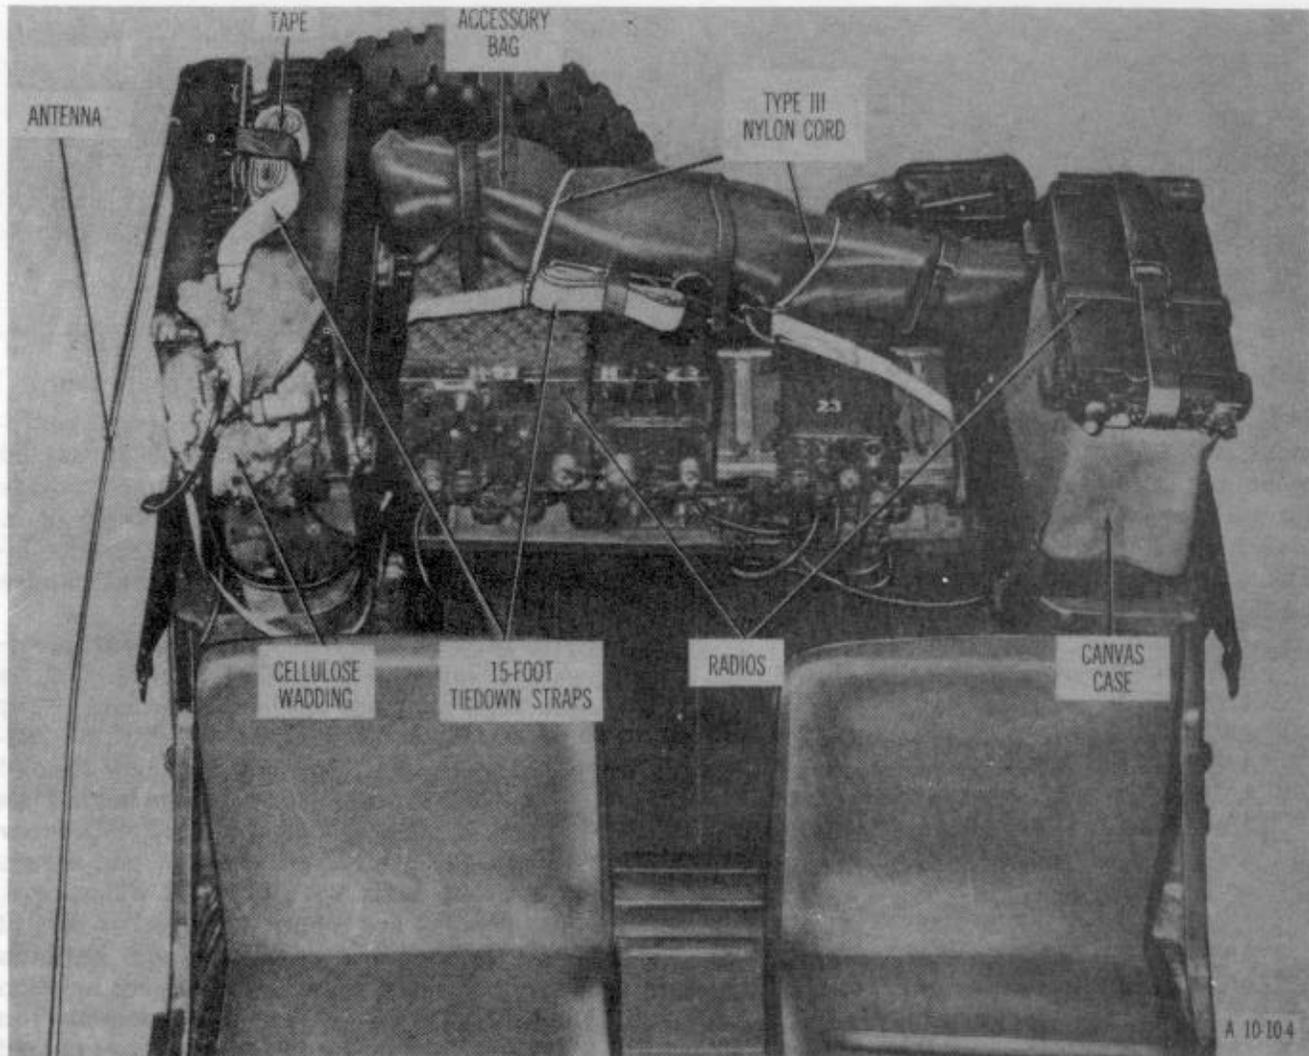

Figure 3-1. Radio sets stowed.
a. *General Procedures.* The general procedures are shown in figure 3-1. Secure, pad, tie and/or tape all loose radio components. Wrap any small, loose components in cellulose wadding and place in storage compartment located under the right front seat or the one behind the front seats. If antennas are mounted on the rear of the vehicle, bend them forward and secure them to front seats with type III nylon cord. When antennas are mounted on either side of the vehicle, remove antennas and antenna mounts and secure them to convenient location in the vehicle. If the antenna base is mounted on the rear of the M151 truck and is extended above the height of the spare tire, the antenna base must be removed, padded, and secured in a convenient place in the truck. Secure radios to their mounts using 15-foot tiedown assemblies as required. Some light sets, such as the AN/PRC-9 and AN/PRC-10, have their own retaining straps and may be stowed in canvas cases. Make certain that straps are secured properly. If an accessory bag is to accompany the load, secure it in a convenient place with type III nylon cord. If gasoline cans are to be stowed in the rear of the truck, place a piece of honeycomb in front of any radios mounted in the bed of the truck to prevent damage to the instrument panel.
(1) AN/MRC-95. Procedures for stowing the AN/MRC-95 radio set are as follows: remove teletypewriter set and position on rear seat; make certain that seat holddown pins are secured; place sufficient cellulose wadding on keys to prevent damage upon ground impact. Using